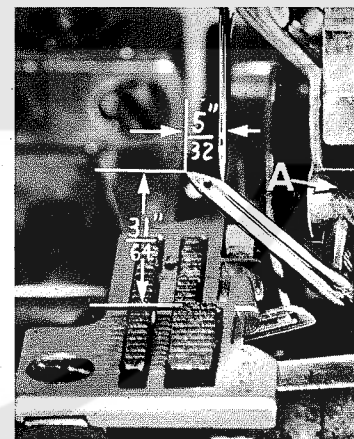

Fig. 10
Next, turn handwheel until looper is at the left end of its travel; check dimensions of upper looper point with respect to needle and throat plate (Fig. 10). If
resetting is necessary, do it by moving the upper looper holder (A, Fig. 10). Figure 10 represents the dimensional setting for Styles 39500 FA, FB, GS, JE and JG.
If it becomes necessary to move looper thread pull-off (AF), be sure to take up all end play in needle drive shaft before tightening. If upper looper is located so that it is higher over throat plate than recommended in Fig. 10, the purl will tend to form near top edge. If upper looper is too low, the purl will form nearer bottom edge.